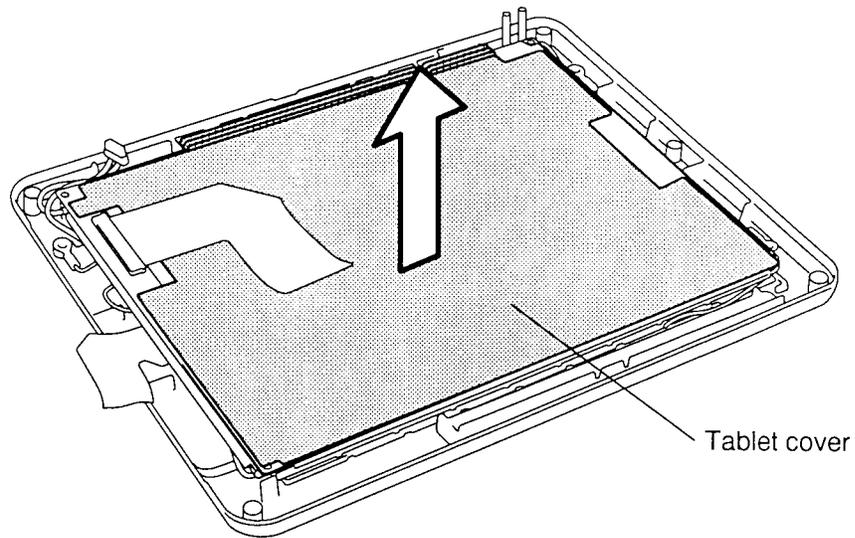
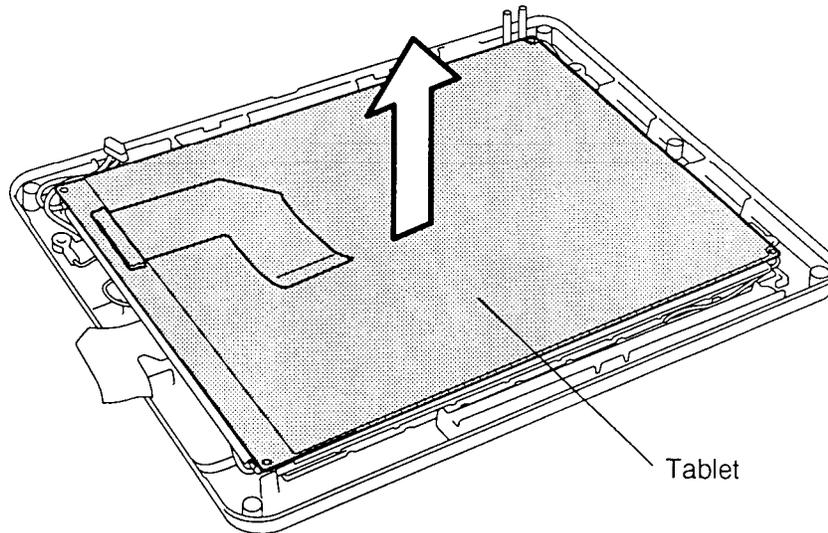

Figure 4-18 Removing the T200 Tablet Cover
Figure 4-19 Removing the T200 Tablet
5. Remove the **tablet cover** (Figure 4-18).
6. Remove the **tablet** (Figure 4-19)
1. Place the **tablet** on the LCD panel (Figure 4-19), and **tablet cover** on the **tablet** (Figure 4-18). When you seat the **tablet**, align the holes at each corner with the corresponding posts on the LCD module.